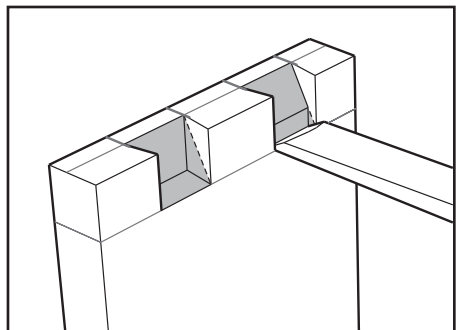

Figure 27: Pin board after the waste has been removed.
8. Carefully remove the waste areas with a sharp chisel by making a series of alternating cuts — start by cutting across the grain, then cut with the grain. The sides of the cavities shown in gray in **Figure 27** are not cut with the saw, and must therefore be removed with the chisel. Fit in this area can be looser than ideal in order to assemble the joint, but this can reduce the strength of the joint due to reduced contact area. Using a gap-filling adhesive may alleviate this.